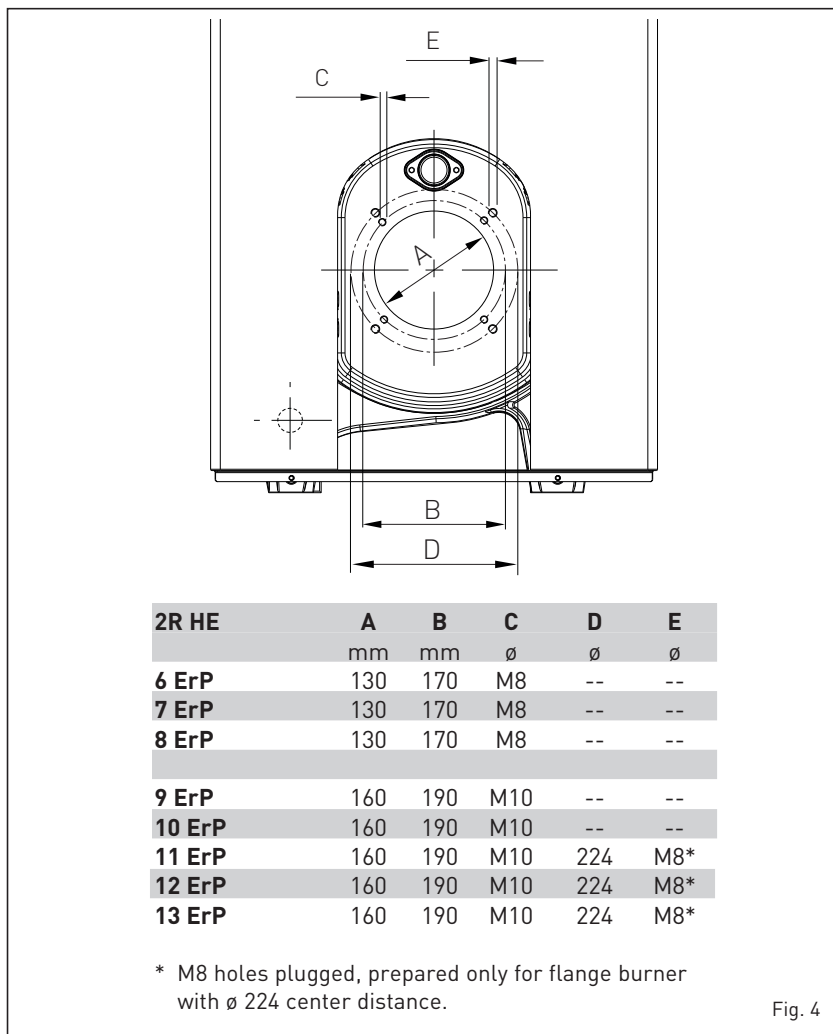

Fig. 4
1.5.1 Burners assembly (fig. 4)